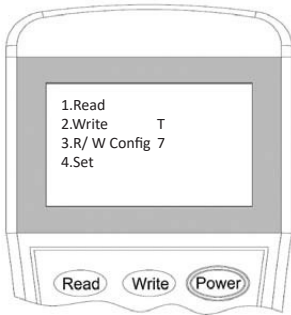

Figure 12
2. Switch-on the programming tool, then press button “3” to enter to **Configuration mode** (Figure 12).